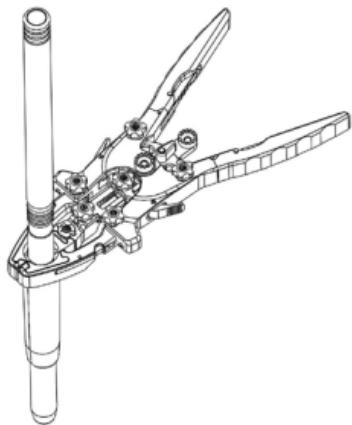

Figure 9
- Slide the retractor and attached blades over the **18 mm Dilator** and into the surgical site (Figure 9).